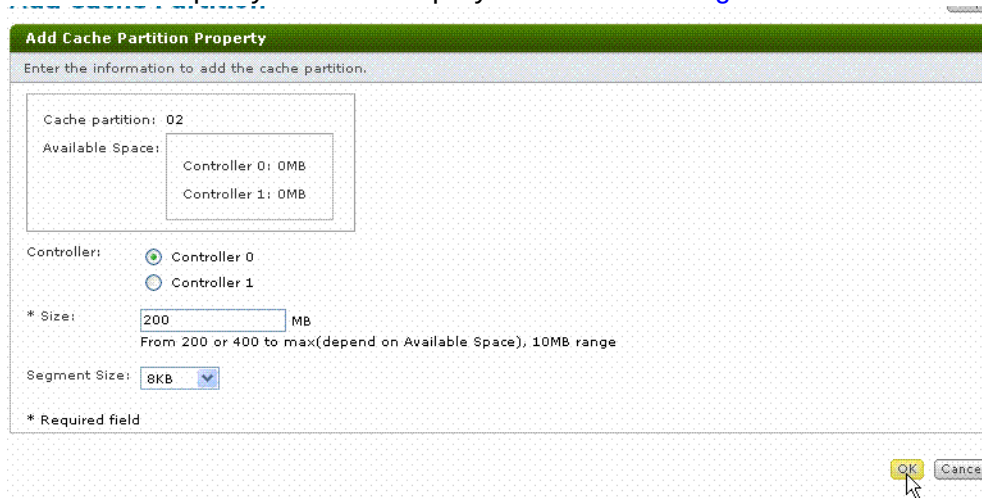

Figure 7-5: Add Cache Partition Property dialog box
5. Select cache partition **00** and click **Add Partition**. The Add Cache Partition Property window displays as shown in Figure 7-5.